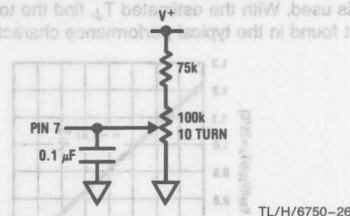

FIGURE 23. A means of transmitter output amplitude control is shown
- When evaluating OCT system noise performance on a real power line, it is desirable to vary the signal amplitude to the receiver. This is not easy. An in-line line-proof L-pad is fine except that the line impedance is unknown, and variable and so the L-pad will rarely match. Instead, the power output of a chip transmitter may be controlled using the circuit of Figure 23. This circuit controls the ALC.
representing an average line impedance may be connected to the line side of T_1 . The circuit of Figure 23 should then be used to defeat the leveling effect of the ALC.